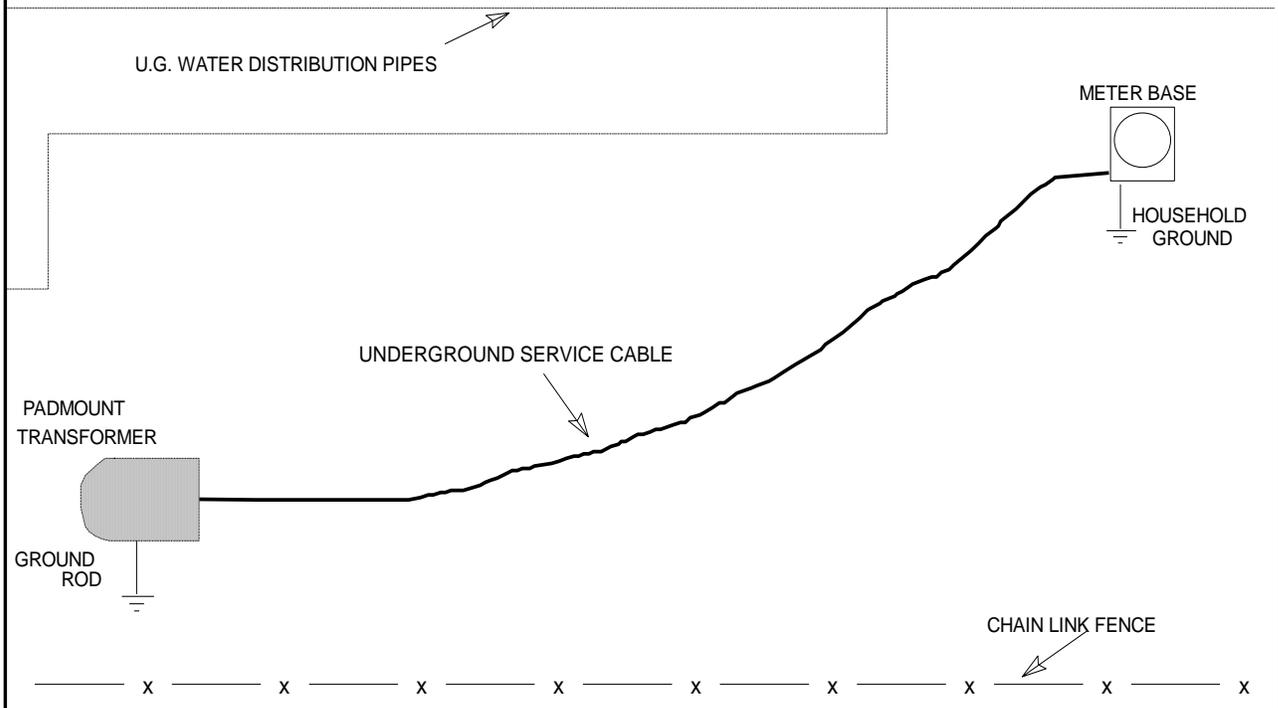

Figure 1
1.2 **ON THE JOB SITE** – The ACVGD® is easy to use and its application to the job of locating the precise location of the fault can be mastered in just a few times of use. The following discussion explains the techniques used to locate secondary voltage (less than 600 VAC) service cable faults with the ACVGD®. Please refer to the attached drawings throughout this discussion on the use of the ACVGD®. Figure 1 shows a typical layout of facilities in a customer's yard.